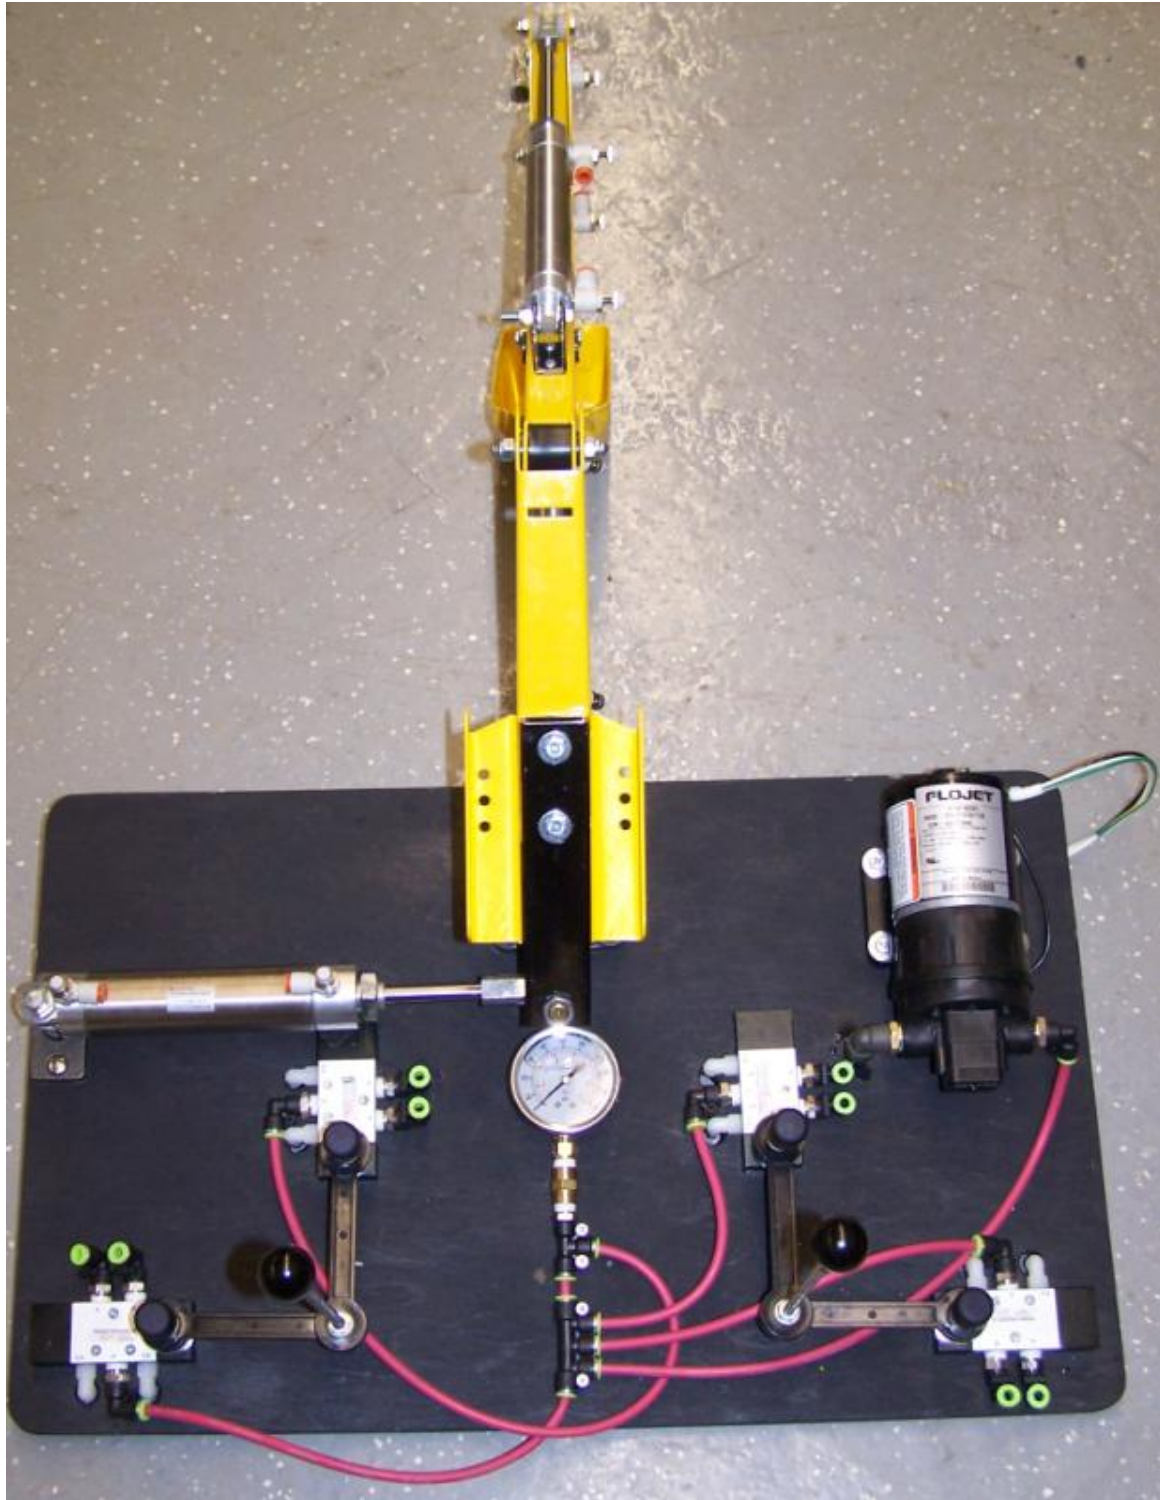

Figure 28: System Pressure Lines Configuration
With the excavator arm fully assembled the lines can now be ran and cut to length. First cut and place the system pressure lines, use red tubing (2). The system pressure lines can be seen in Figure 28.